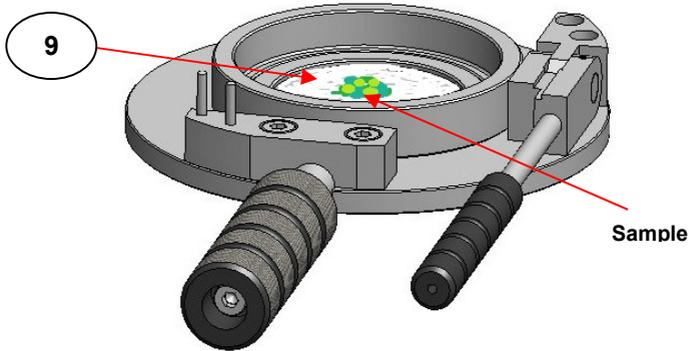

Fig 6. Lower Platen Pressing Assembly with Spacer Ring, Guide Ring, Lower Aluminium Foil and Sample
Polymeric samples in bead form may require pre-crushing while cold so that the top platen pressing assembly (2) may be mounted more easily when constructing the overall Film Maker Accessory of parts prior to installation into the Press. (See page 12, **Fig 6.**) Pre-crushing can be done in a Specac Press itself (without the Atlas™ Heated Platens in position) using a 13mm diameter evacuable pellet die P/N GS03000.